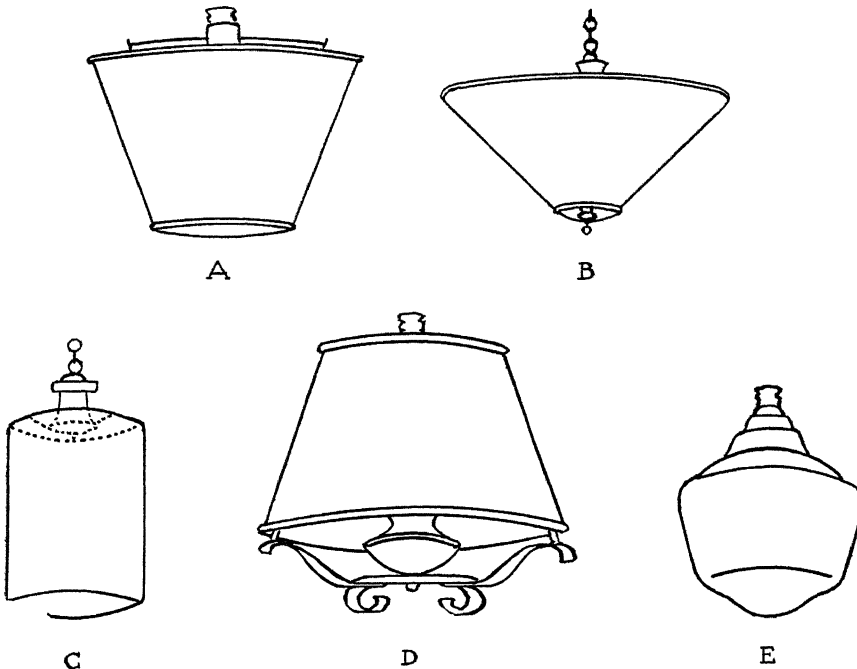

Fig. 22. — Adapter fixtures which prevent glare and ensure good light.
sive adapter fixtures equipped with shades which can be screwed into the light socket, such as in Fig. 22. Various shaped shades, as (A), (B), (C), which can be clamped to the bulb are available. A parchment drum open at the bottom, such as (c) is useful to cast some light directly downward from the bulb. Hang it low enough to prevent glare from striking the eyes.